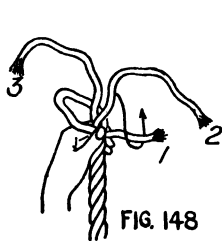
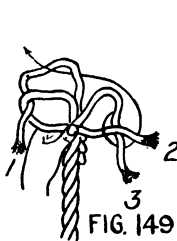

FIG. 148
FIG. 149
**Wall Knot.** Among the rope end fastenings that are easily and quickly made, the wall knot is the most used. For a small rope unlay the strands about three inches. Hold the rope in the left hand, loose strands upward. With the right hand grasp the end of strand 1 and bring it across the rope, forming a loop and allowing the end to hang free (fig. 148). Hold the loose end in position with the left thumb. Grasp strand 2, pass it under
strand 1 (see arrow in fig. 148) and hold it against the rope with the thumb of the left hand (fig. 149). Again with the right hand, grasp strand 3, pass it under strand 2 and up through the first loop formed as indicated by the arrow in fig. 149 and shown in fig. 150. Draw each strand gradually until the knot is tight (fig. 151).
**Wall and Crown Knot.** A more secure fastening than the wall knot is made by first making the wall knot (figs. 148, 149, 150 and 151) then finishing with the crown (fig. 152) also (see description of crown knot, figs. 145, 146 and 147). The two knots are drawn together as in fig. 153.
**Matthew Walker Knot.** This is one of the most permanent of the end knots and one of the most difficult. It can be most easily made by loosely constructing the wall knot (fig. 156; also figs. 148, 149 and 150) then continuing as follows: Pass end *a*